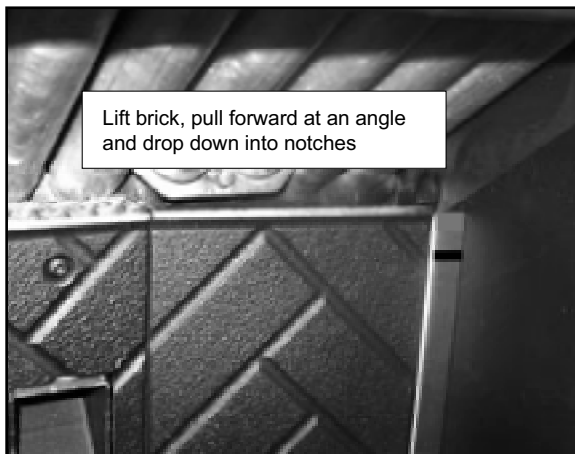

Figure 35.1
3. Lift slightly and pull the right edge of the brick forward until it stops and then drops down into both top and bottom notches of right bracket and locks into place. **Figures 35.1 and 35.2**.